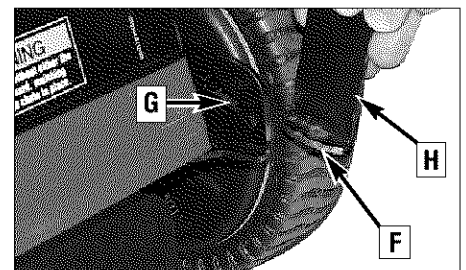
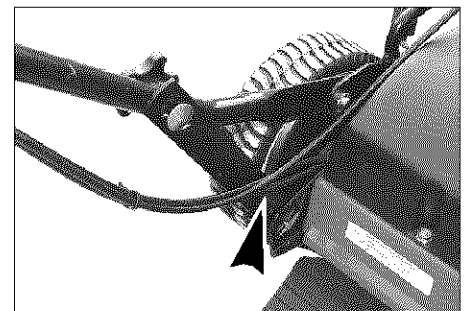

Figure 2-3: Assembling handlebar. (Right-side handlebar strut shown.)
Figure 2-4: Cables correctly routed inside handlebar strut.
3. Tighten the two lower handlebar adjustment knobs just enough to allow the two handlebar struts (H, Figure 2-3) to move in and out slightly.
4. Insert the tab (F, Figure 2-3) on each handlebar strut into the slot (G) one each side of the deck. Be certain to route the cables inside the left side strut as shown in Figure 2-4.